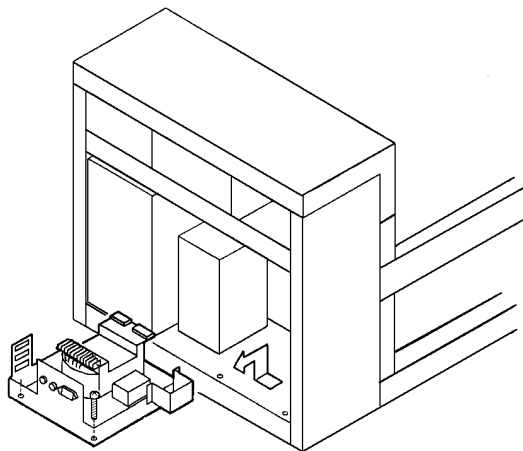

Figure 5-2. AC Power Supply Removal
| Figure 5-2. | AC Power Supply Removal | 5-3 |
8. To replace AC Power Supply, perform steps 1 through 7 in reverse order. Refer to Figure 5-2.